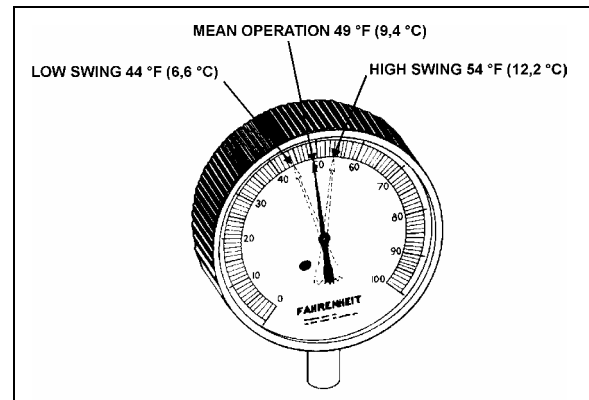

FIGURE 30: HIGH & LOW SWING TEMPERATURE AT REMOTE BULB 22047
6. Check approximately 5 readings of pressure at 2-minute intervals and convert to temperature using the vapor-pressure table, paragraph 7.11. Likewise check the temperature reading at the remote bulb at the same 2-minute intervals and record the low and high swing readings of the needle (refer to Figure 30).
Example of readings taken at Figure 30: